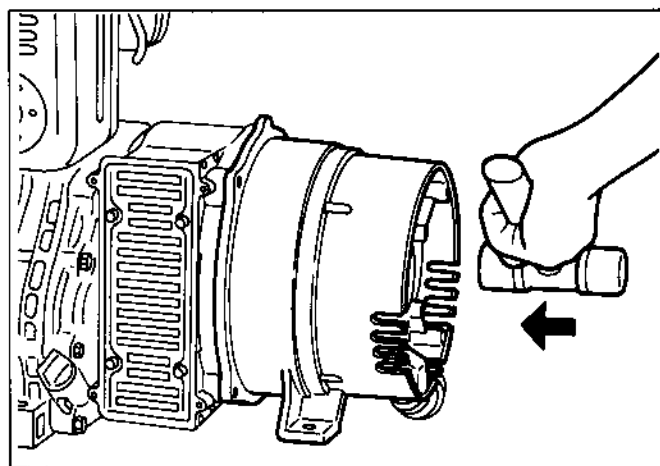

Fig. 10-30
- (8) Put the rear cover and stator assembly over the rotor. Tap on the rear cover evenly with a plastic hammer to press the rotor bearing into the rear cover. (See Fig. 10-30.)